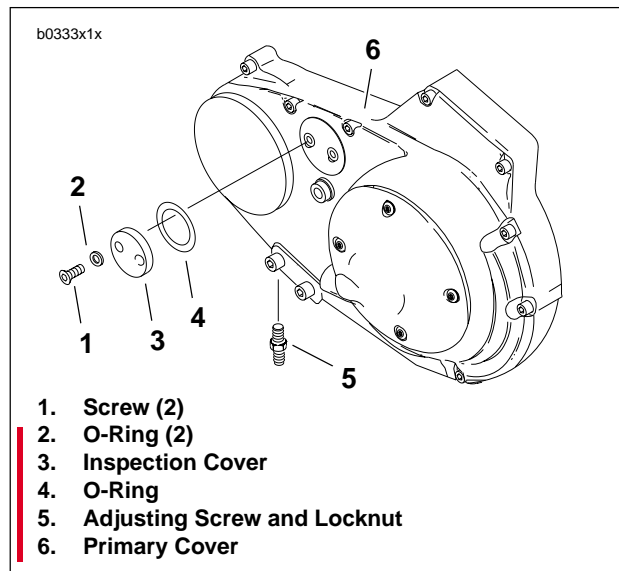
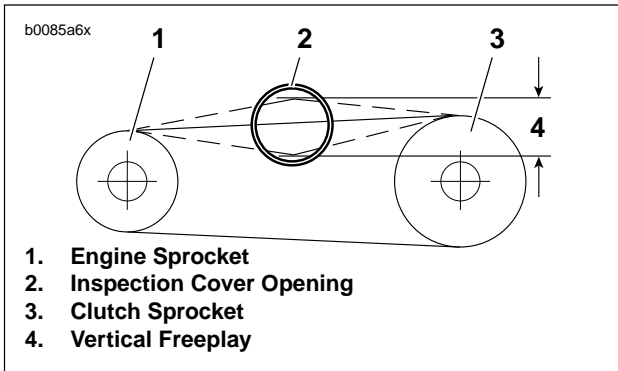

Figure 1-27.
Figure 1-28. Measuring Primary Chain Tension
See Figure 1-27. Measure primary chain tension through the inspection cover (3) opening. Adjust primary chains not meeting vertical freeplay specifications.
1. See Figure 1-27. Remove two screws (1) and O-rings (2).
2. Remove inspection cover (3) and O-ring (4) from primary cover (6).
3. See Figure 1-28. Check primary chain tension by measuring vertical freeplay (4).
- a. Measure vertical freeplay through inspection cover opening (2).
5. See Figure 1-27. Install O-ring (4).
6. Fasten inspection cover (3) to primary cover (6) using two screws (1) with O-rings (2). Tighten to 40-60 **in-lbs** (5-7 Nm).